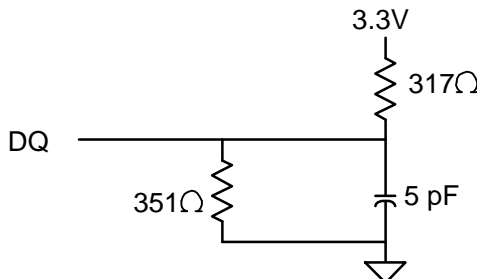

Fig.2 OUTPUT LOAD EQUIVALENT
6. Output loading is specified with  $C_L = 5\text{ pF}$  as in Fig. 2.